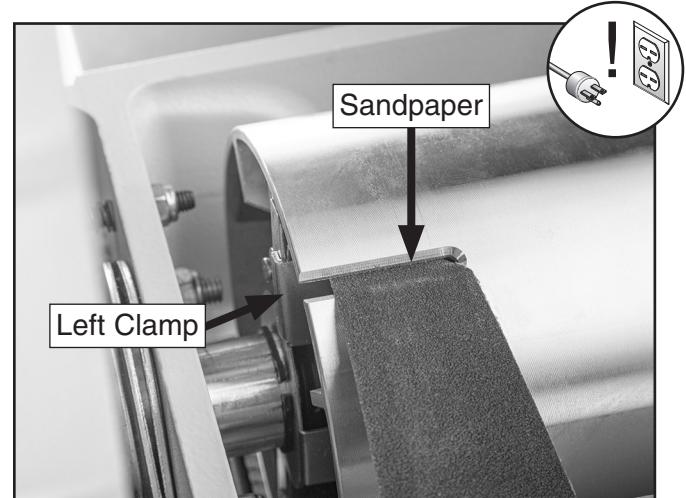

Figure 40. New sandpaper clamped to drum on left side.
- Insert corner of new sandpaper in slot at left side of drum and clamp with left clamp as shown in **Figure 40**.